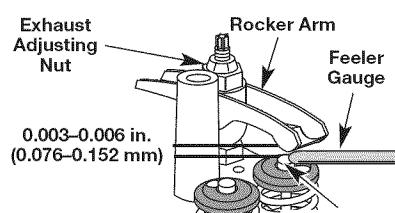

Fig. 31
7. Slide the feeler gauge between the rocker arm and the valve return spring. Measure the clearance between the valve stem and rocker arm (Fig. 31). Measure both the intake and exhaust valves.